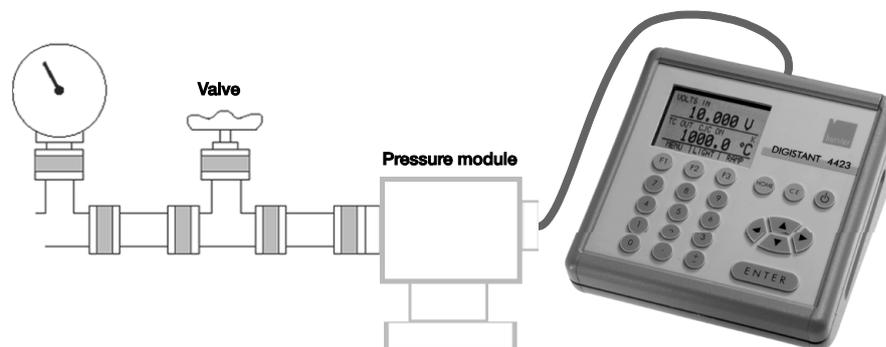

Figure 18: Measuring Pressure Transmitter
- Connect the pressure module to the calibrator (shown in Figure 18).